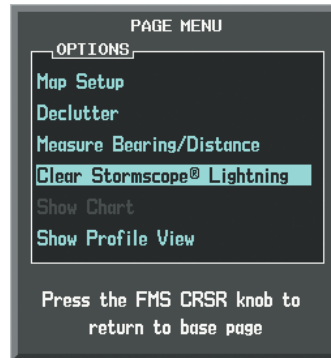

Figure 6-121 Navigation Map Page Options Menu
- 2) Select 'Clear Stormscope® Lightning' (Figure 6-121).